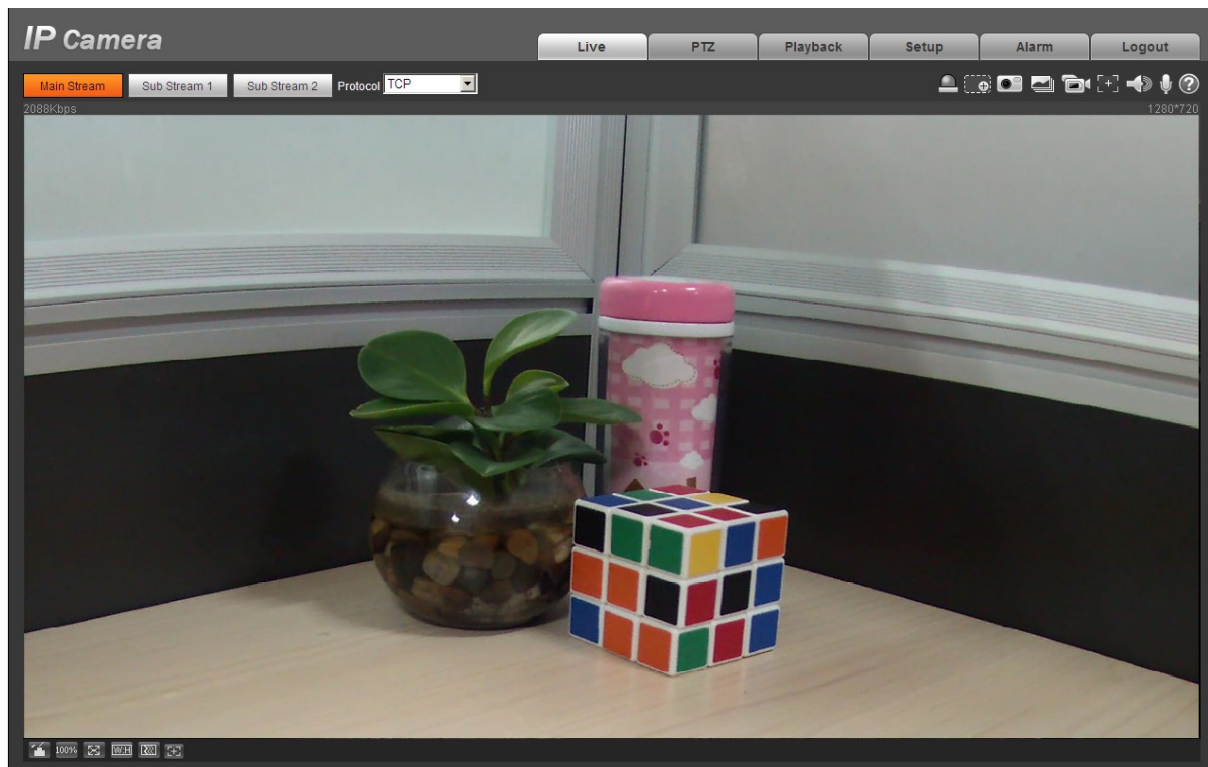

Figure 3-4
Step 3 Install controls according to the system prompt; see Figure 3-4 for the WEB main interface. Please modify the administrator password as soon as possible after you successfully logged in.